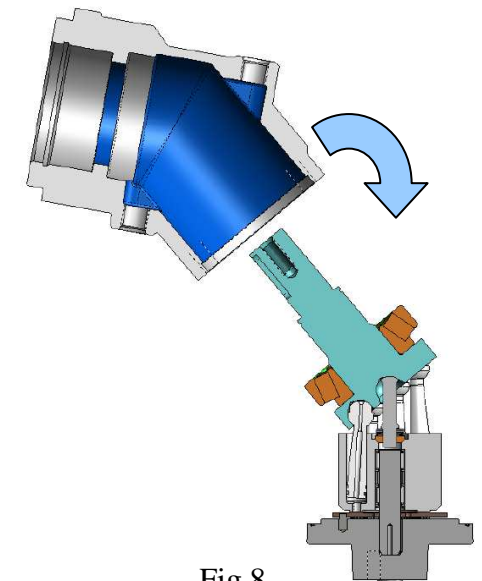

Fig.8.
- 9 - Mount the housing like Fig.8.